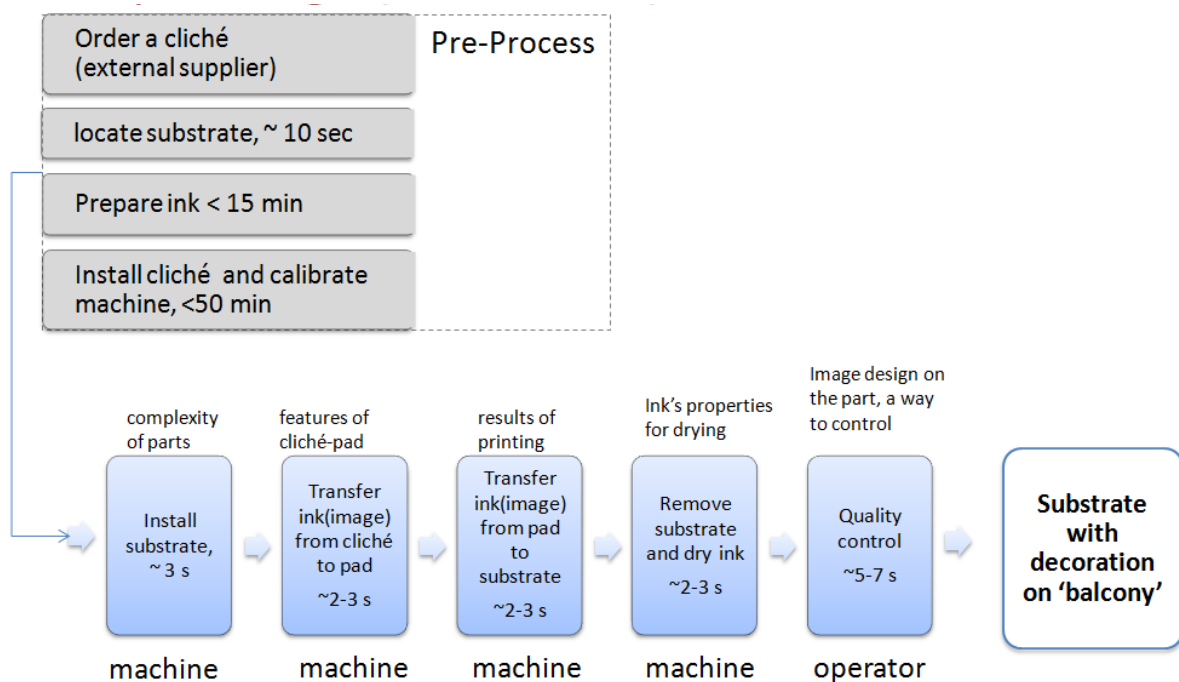

Figure 5. Functional description of the automatic pad-printing process.
- Automatic, it is considered as a process where an operator is not needed to transfer the image to the substrate (Figure 5), however there is a quality check performed by human.